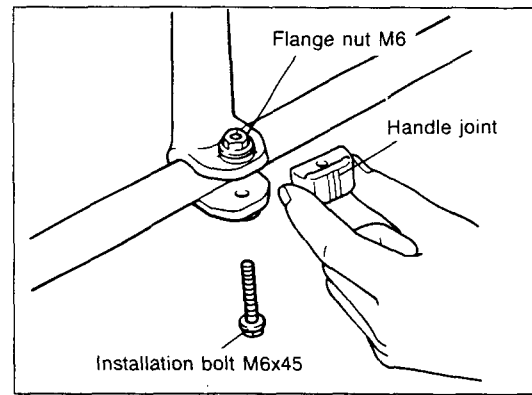

Fig. 1
## Mounting the handle (Fig. 1)
2. Install the handle joint on the handle as shown in Fig. 1.